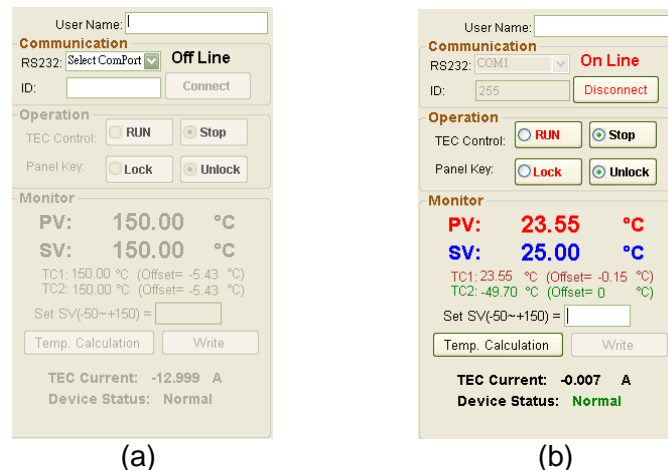

Figure 3-3 Example of (a) before and (b) after Establishing the Communication Link
1. PC/TEC Controller Communication Link: The user must choose a correct com port first, then press “connect” button. The program will scan for communication address automatically. If a TEC Controller is found, connection status will change from “Off Line” to “On Line”. Figure 3-3 shows an example before and after a successful link establishment.